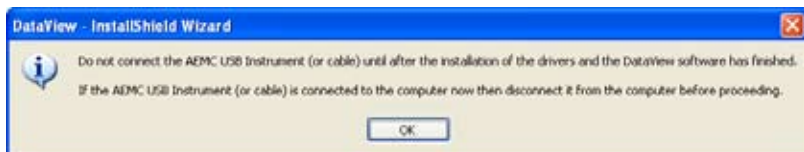

Figure 8-3
10. If the feature selected for installation requires the use of a USB port, a warning box will appear, similar to Figure 8-3. Click **OK**.